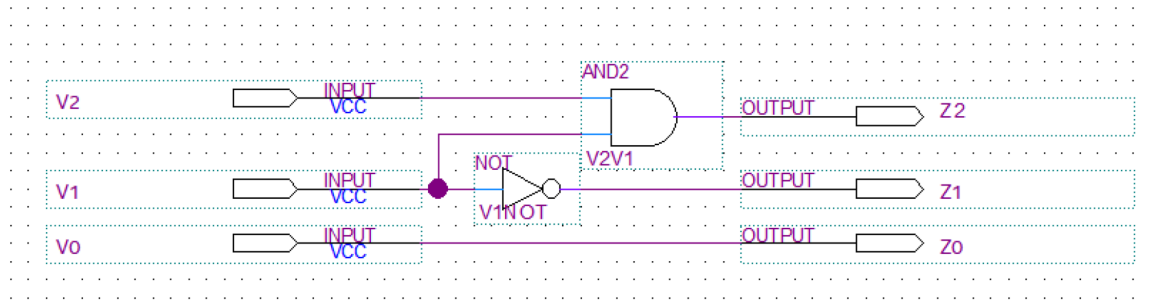
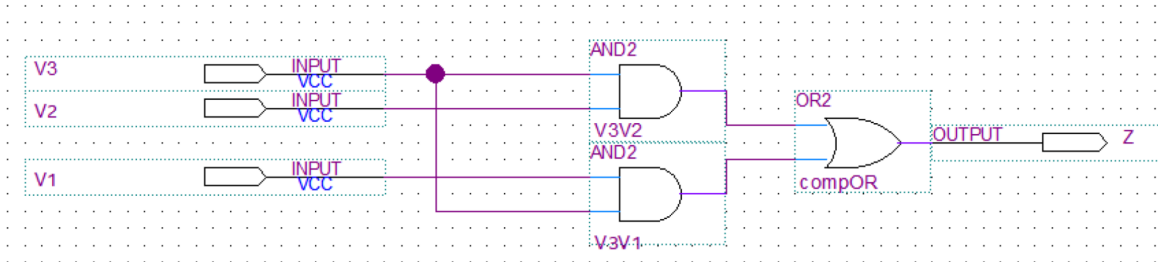

Figure 2: Circuit A
Figure 3: Comparator
- I then created symbols for these three components. By using the general equations, I created lower level logic circuits to generate the proper outputs for their respective inputs. The symbols for Comparator and Circuit A can be seen in *Figure 2* and *Figure 3*